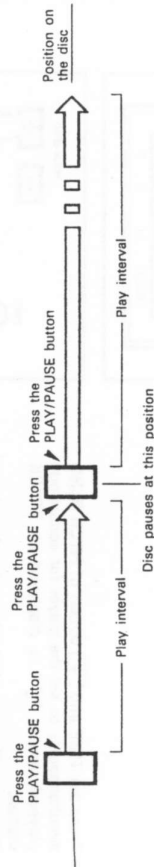

Figure 9
(5) Description of the PLAY/PAUSE, and CUE Operations
- The steps through which disc play is performed when the PLAY/PAUSE and CUE buttons are pressed are described with the aid of the following illustrations in Figures 9 through 11.
Pressing the PLAY/PAUSE button starts the disc play, the advancement of which is illustrated by the arrows of Figure 9. Pressing the PLAY/PAUSE button again during disc play causes the play operation to pause, and pressing this button once more causes the disc to be played again.